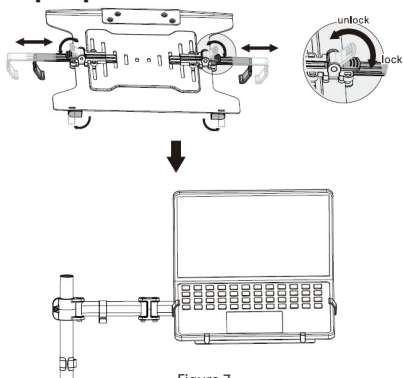

Figure 7
1. Tighten the **Tilt Tension Adjustment Screw**, located on the side of the **VESA Mount** on the **Swivel Arm (A)**, and the **Swivel Tension Adjustment Screw**, located on the top of the **VESA Mount** on the **Swivel Arm (A)**, using the **6 mm Hex Key (J)**.
2. Tighten the **Tension Adjustment Screw** that fastens the **Swivel Arm (A)** to the **Pole (B)**, using the **5 mm Hex Key (I)**.
3. Unlock the **Laptop Arm Lock Tabs**, located on the back of the **Laptop Mount Assembly**, and fully extend the **Laptop Arm Clips (L)**. (Figure 7)
4. Place a **Laptop** atop the **Laptop Mount Assembly** and collapse the **Laptop Arms (L)** inwards, until they are flush with the sides of the **Laptop**.